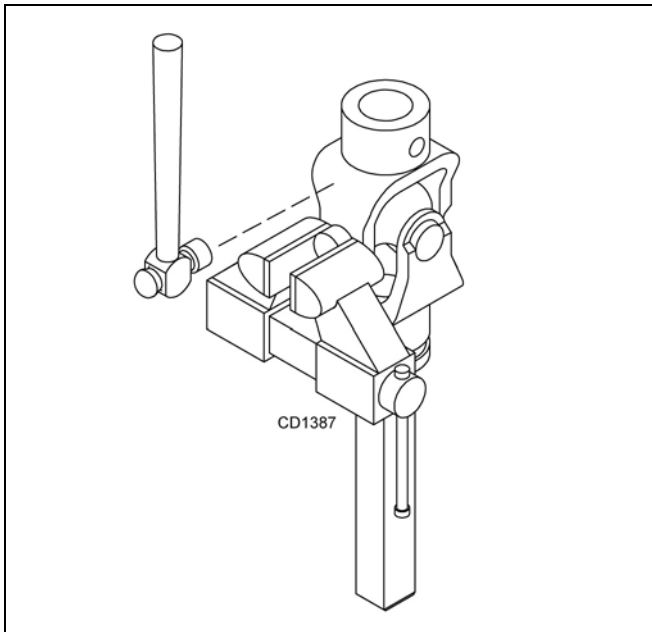

Figure 25
3. Clamp cup in vise as shown in Figure 25 and tap on yoke to completely remove cup from yoke. Repeat Step 2 and Step 3 for opposite cup.